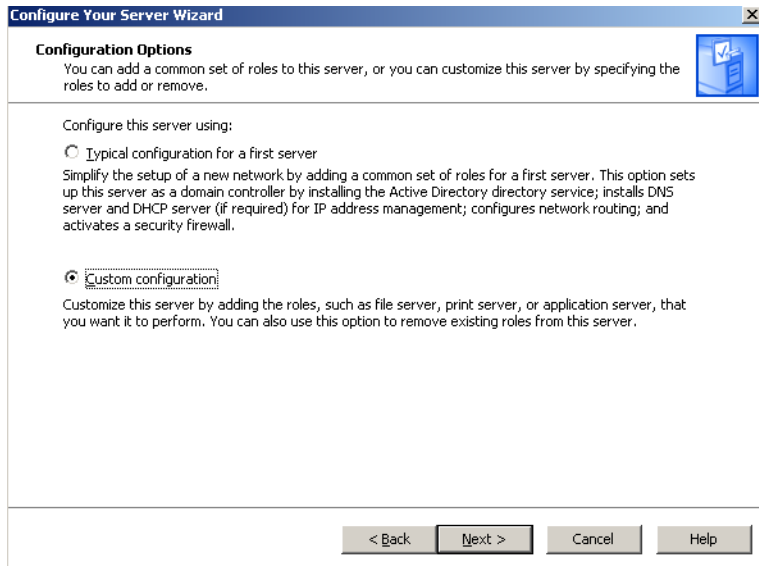

Figure D-24 Configuration options
5. From the **Configuration Options** dialog shown in figure D-24, select the **Custom Configuration** radio button then click **Next** button.